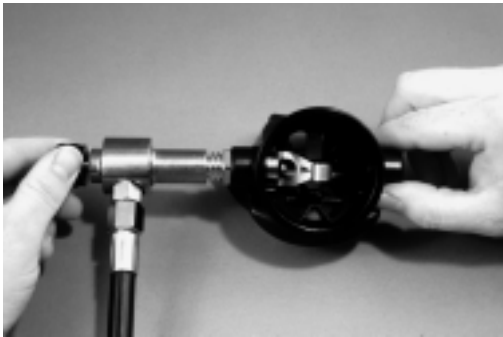

Fig. 14 – Inline Adjustment Tool Connection
4. Pull back the knob of the tool to retract the adjusting stem, and mate the female threaded end of the tool onto the second stage inlet fitting. While holding the tool secure, turn the second stage clockwise until lightly snug (see Fig. 14).